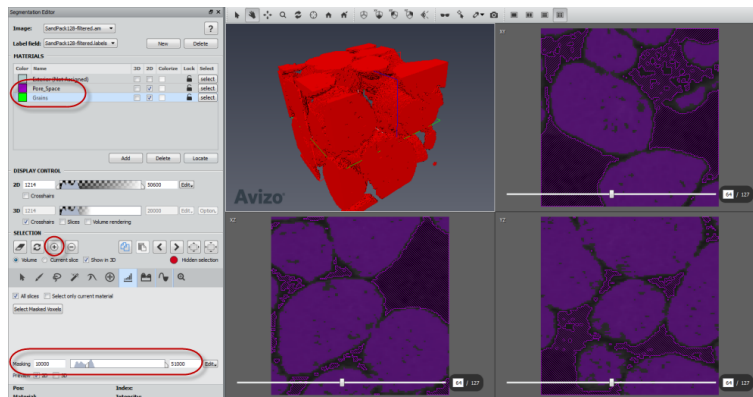

Figure 6.65: Roughly assign "Grains" phase in Segmentation Editor.
- Select "Grains" in *Materials* list, use the large + button in the *Selection* group or press key 'A' to assign the selection to "Grains" material (see Figure 6.65).